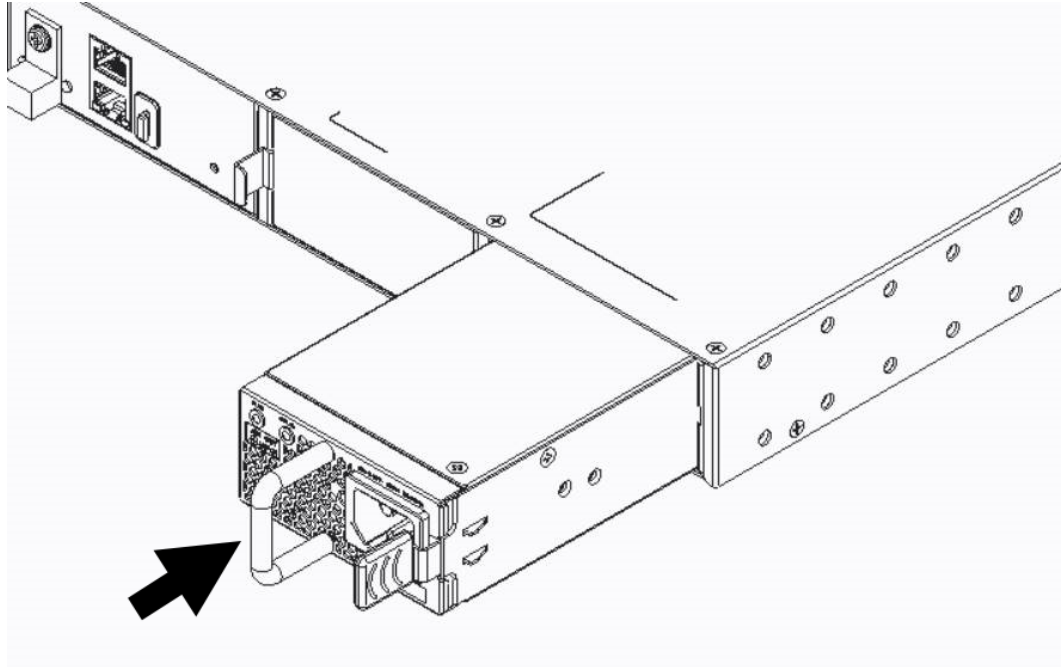

Figure 76: Installing A 350 W or 715 W AC Power Supply
6. Carefully slide the power supply all the way into the power supply bay, as shown in Figure 76.